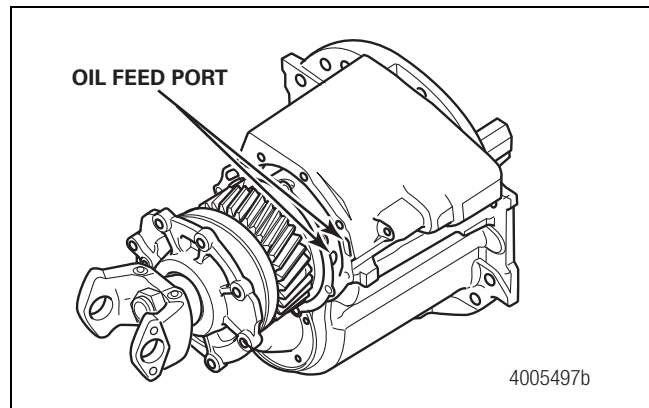

Figure 4
- Clean all sealant from surfaces surrounding the oil ports of the bearing cage and carrier assembly. Figure 4.